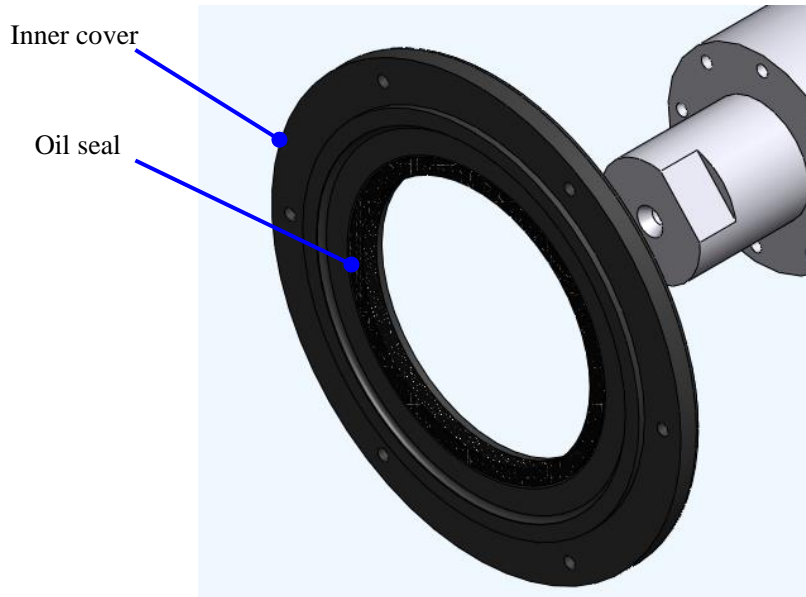

Figure 144: Remove Inner cover and clean
9. Take off the inner cover and clean it. See Figure 144.